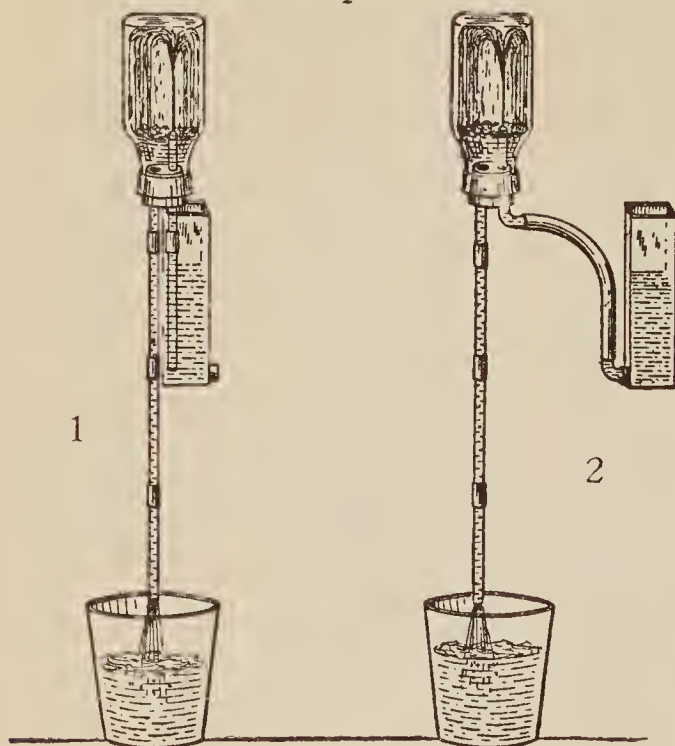

Fig. 49.—An Enclosed Fountain.
Arrange the apparatus as in (2) Fig. 49, lift the tank until there is about 2 inches of water in the bottle, then arrange as shown.
Arrange the apparatus as shown in (1) Fig. 49; this is really a siphon with a bottle at the top. Start with 2 inches of water in the bottle, insert the stopper with tubes, invert the whole apparatus,